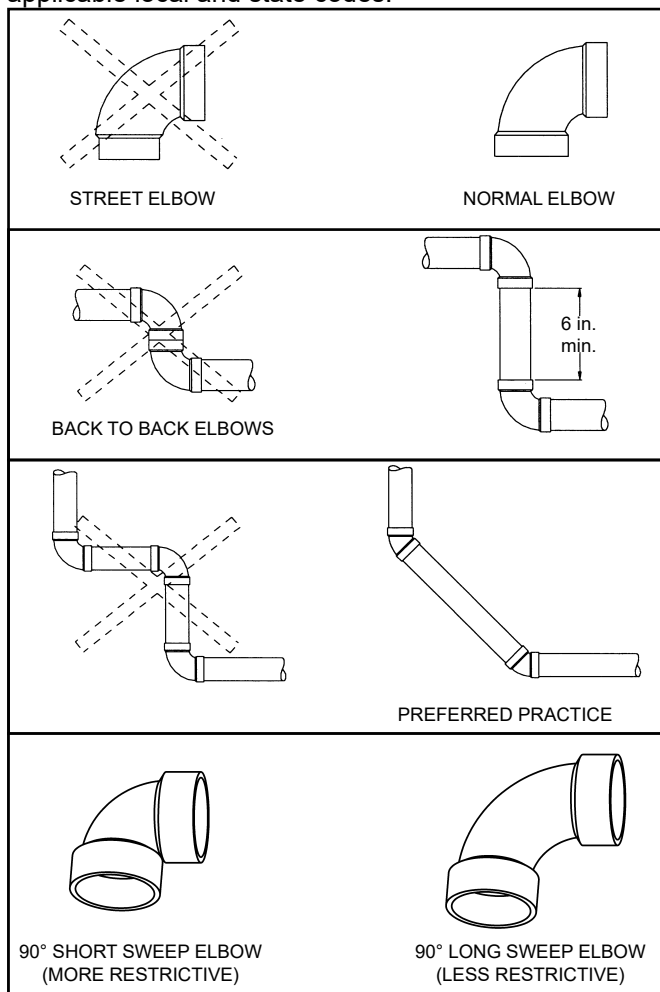

Figure 31.
Note: The information provided in Figure 31 is intended as a guideline for good vent installation practices only and is not intended to restrict venting options beyond those restrictions established by the current edition of the “**National Fuel Gas Code, ANSI Z223.1/NFPA 54**” or any applicable local and state codes.
3. Avoid using 90 degree elbows "back to back" and do not use street elbows. Maintain a minimum 6 in. straight section between elbows. Closely coupled and short radius elbows reduce the venting capacity. Figure 31 shows examples of vent pipe connections.